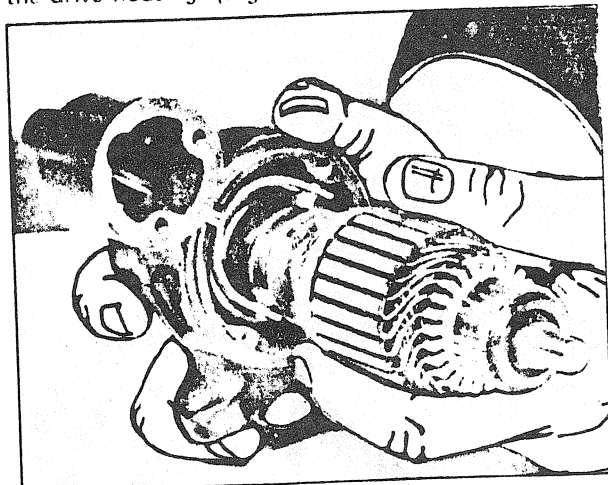

FIGURE 14
- Insert armature together with the shift lever into the drive housing. (Fig. 14).